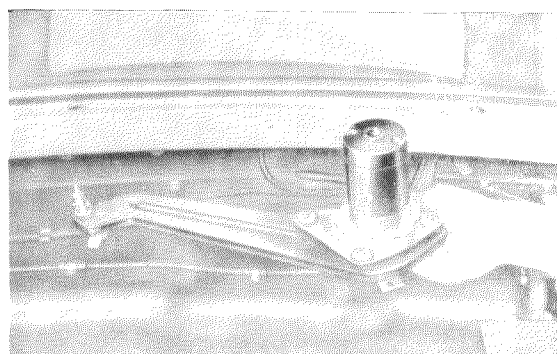

Fig. 82 — 5/3
6. Unscrew the lower hexagon screw (4) for the plate (see Fig. 82 — 4/1). Then take out the plate by moving it gently to one side or the other (Fig. 82 — 5/3).